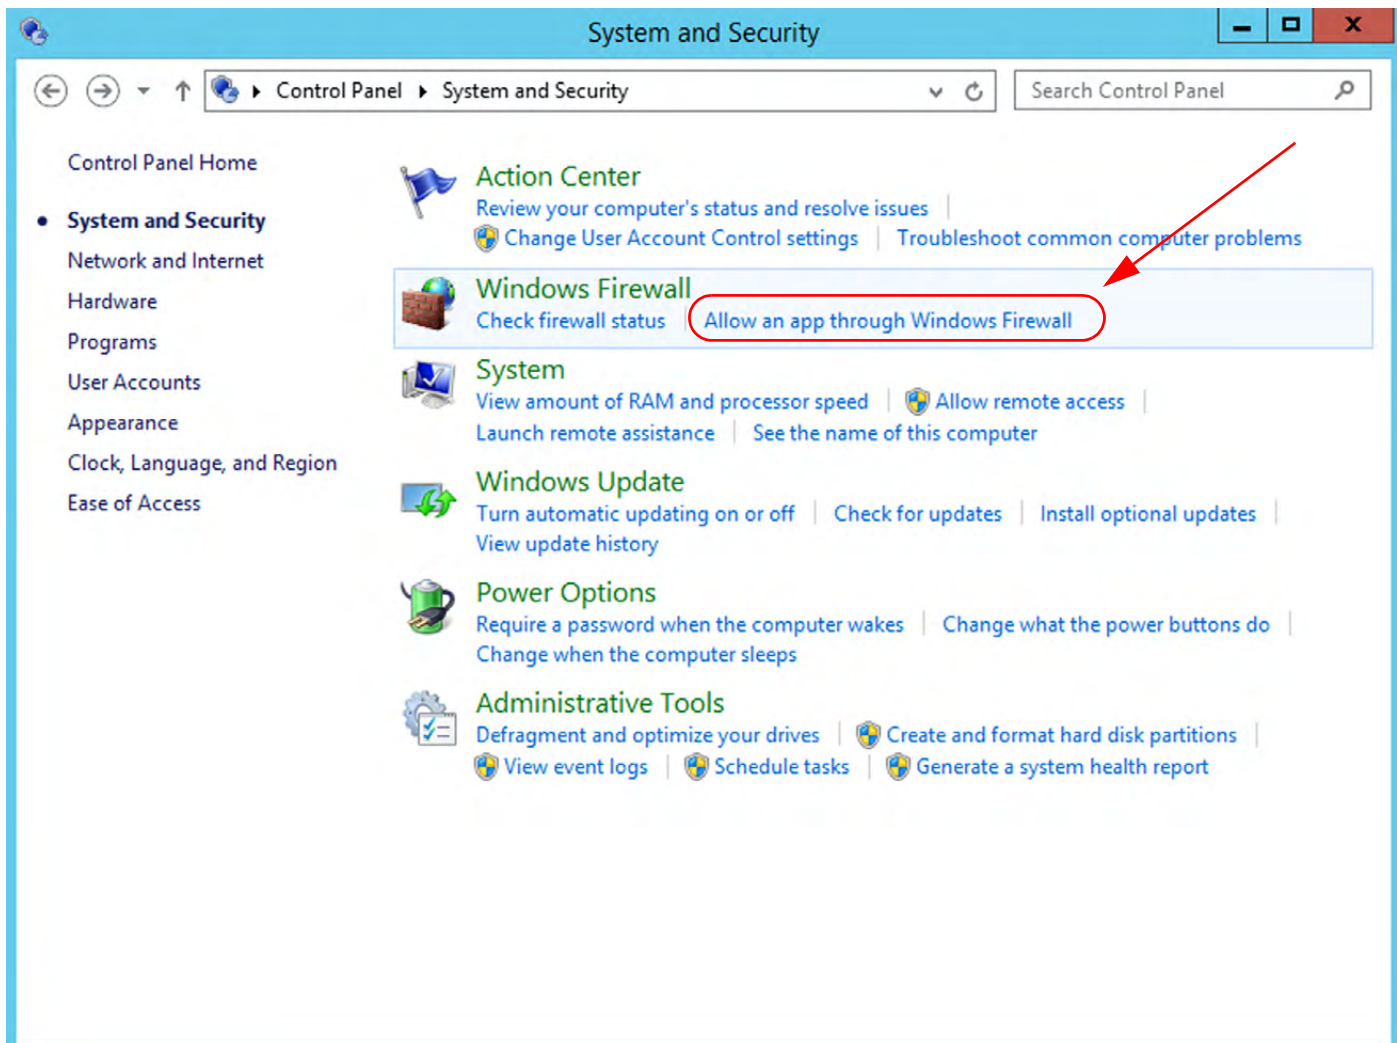

Figure 3.3: Windows Server 2012: Allow an App Through Windows Firewall
3. From the Control Panel -> System and Security Screen, select "Allow an App through Windows Firewall". See Figure 3.3.